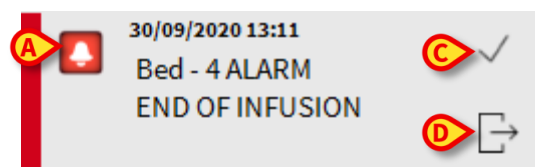

Fig 11
In the message box (Fig 11), the following information is displayed:
- An icon characterizing the message type (Medium/High/Low priority alarm - Fig 11 **A**)
- An "Ack" button. Click the button to acknowledge the corresponding notification (Fig 11 **C**)
- A "Callback" button. Click the button to access the patient station on which the notification occurred (Fig 11 **D**)